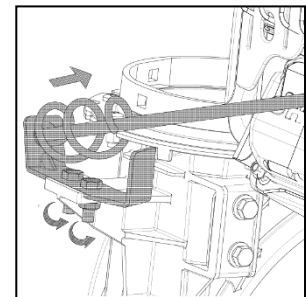

Fig. 46
2. Tighten the nuts. See Figure 46.